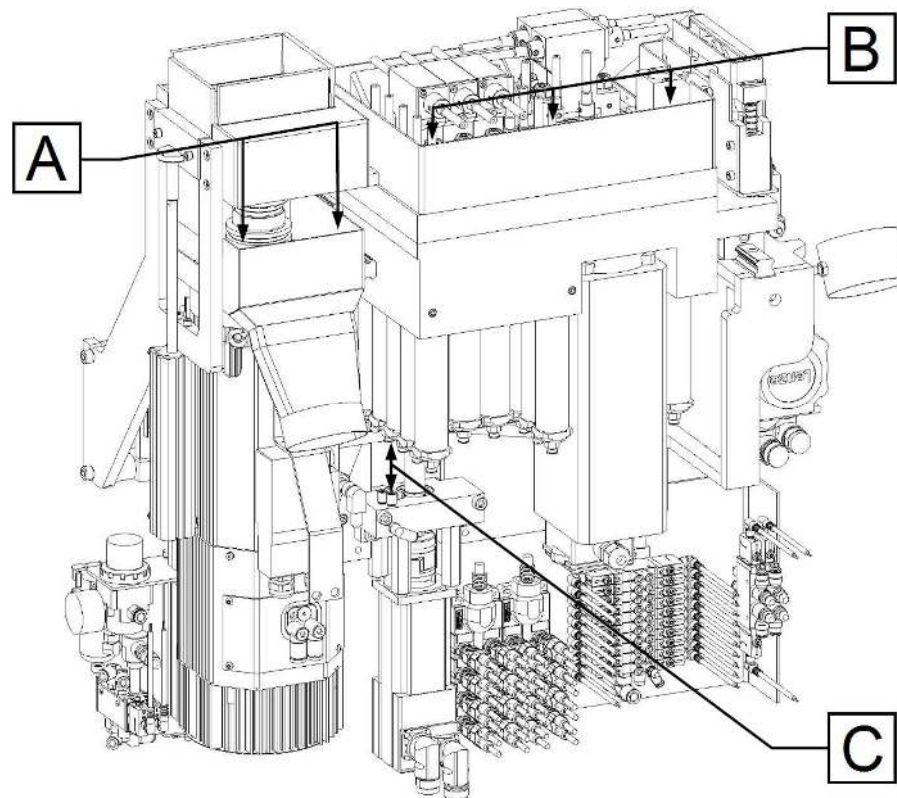

Fig. 48– Cleaning Z-reference, drill head, routing unit
The block reference screws of the Z-axis (C, see Fig. 48, pg.69) must be checked daily and cleaned if required to ensure the processing precision of the machine.
Regular cleaning of the routing unit (A) and the drill head (B, see Fig. 48, pg.69), to prevent damage to the routing unit, to the drill spindles and the grooving unit.